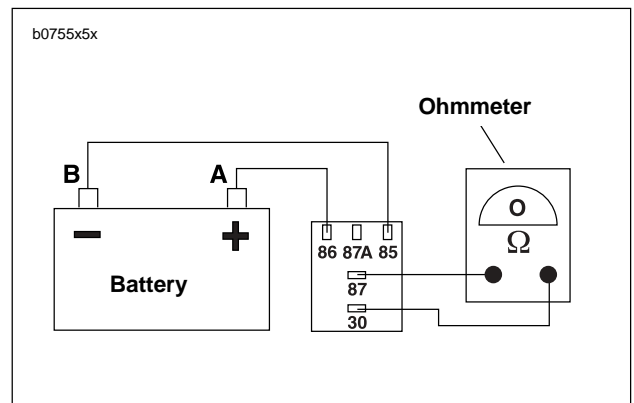

Figure 5-7. Starter Relay Test
- See Figure 5-7. Obtain a 12 volt battery and a continuity tester or ohmmeter.